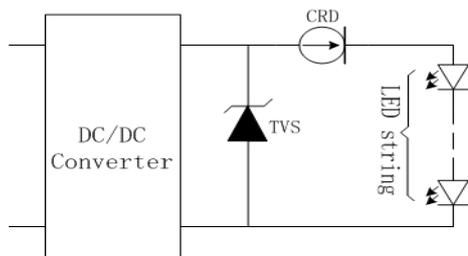

Figure 4: Protection circuit for direct LED drive part
3. The brightness of LED is controlled by the current flowing through it. Unstable current can cause damage to LED. As shown in Figure 4, a Current Regulative Diode (CRD) can be applied to generate a stable current to